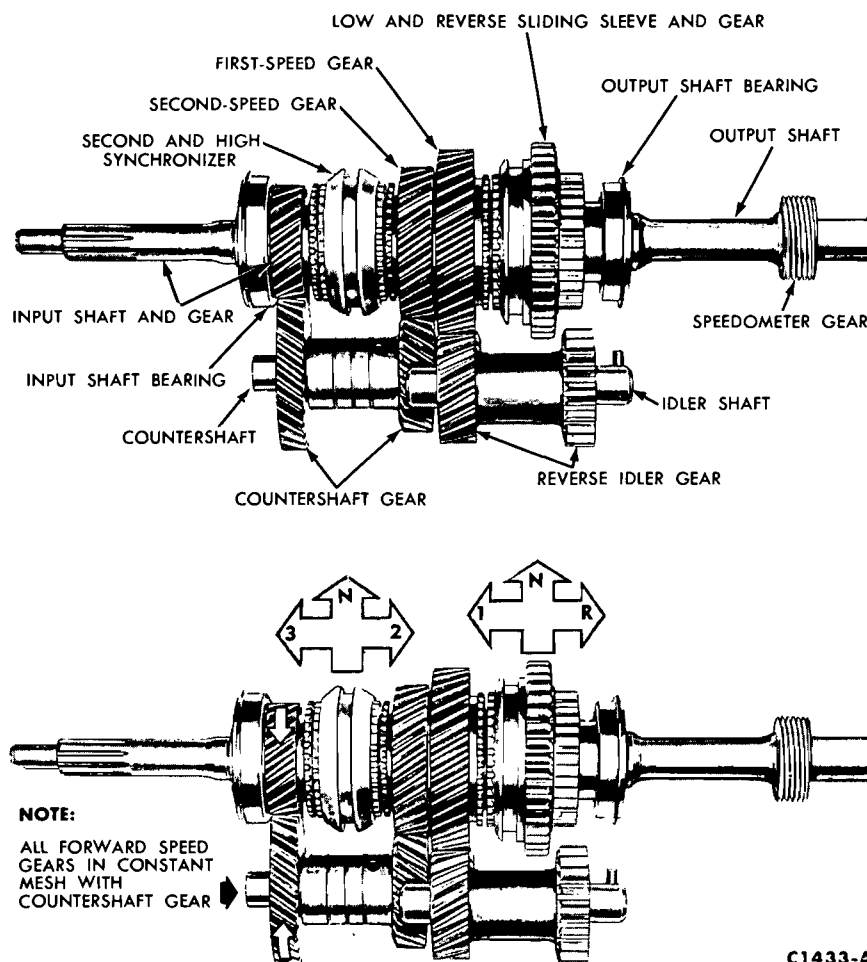

FIG. 2—Power Flow — 3-Speed Transmission
This transmission is of the fully synchronized type, with all gears except the reverse gear and sleeve being in constant mesh. All forward-speed changes are accomplished with synchronizer sleeves (Fig. 2) instead of sliding gears. The synchronizers enable quicker shifts, greatly reduce gear clash and permit downshifting, high to intermediate between 40-20 mph and from intermediate to low below 20 mph.
The forward-speed gears are helical-cut and are in constant mesh (Fig. 2). Gears used in the reverse gear train are spur-cut and are not synchronized.
3. Slide the front of the driveshaft out of the transmission extension housing and off the output shaft. Insert the tool shown in Fig. 2, Part 6-1, to prevent the lubricant from leaking out of the transmission.
9. Remove the tool shown in Fig. 2, Part 6-1, from the extension housing. Slide the front universal joint yoke onto the output shaft and into the extension housing. Connect the rear universal joint to the axle pinion flange and torque the nuts to specifications.